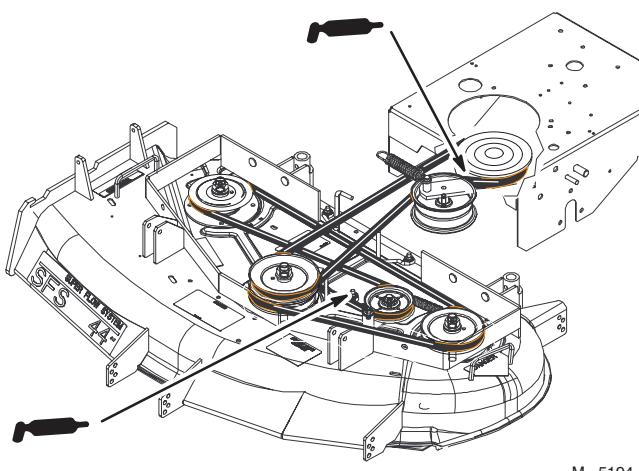

Figure 34
2. Grease the idler pulley pivots (Fig. 34).
3. Grease the idler pulley pivot (Fig. 34).